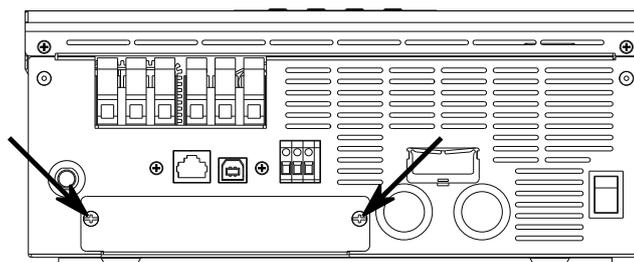

Figure 9: Unscrew parallel board screws
1. Before the kit can be installed, unscrew the two screws shown in *Fig. 9*. Make sure to keep the screws.
- Slide the parallel board back into the inverter in the same place where the dummy board was previously installed. Screw it in place with the screws removed in *Fig. 9*.
Make sure that the minimum distance to walls and other objects is adhered to. Equally, during the installation of multiple inverters make sure the minimum distance between each inverter is at least 20 cm to the side and the inverters are mounted in a horizontal line. Furthermore, no objects may be closer than 50 cm above or below the inverter as shown in *Fig. 9* to ensure adequate ventilation.